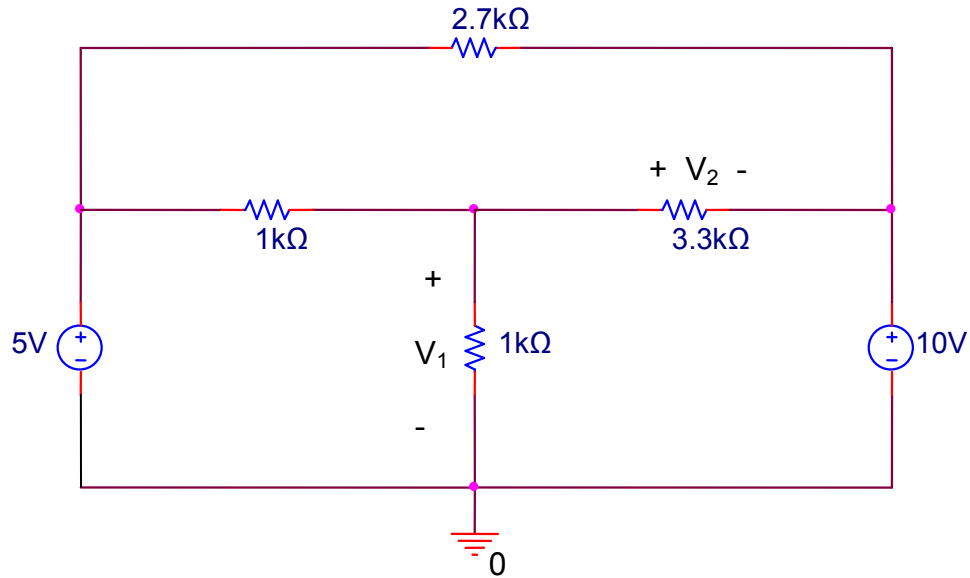

Figure 5.6
3. For the circuit in Figure 5.6, use superposition to determine V_1 and V_2 .
7. Construct the circuit of Figure 5.6 and measure V_1 and V_2 .
14. Use SPICE to analyze the circuit in Figure 5.6 (with both sources in). Compare your results to those obtained in the pre-lab.